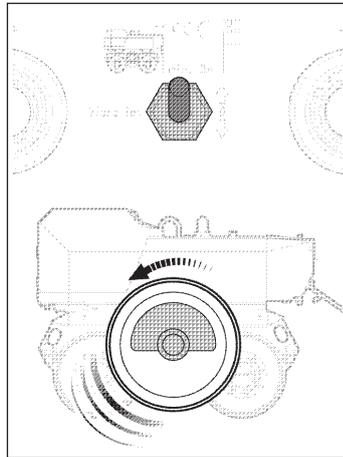

Fig. SE26 Vibratate forwards
- Vibratate forwards (Fig. SE26)